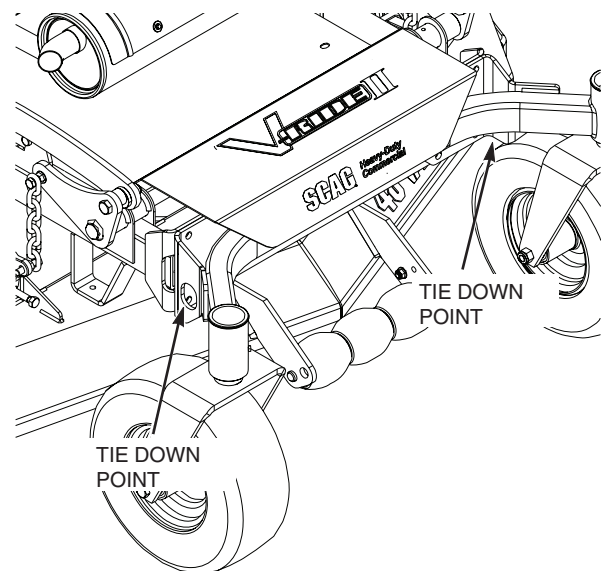

Figure 2-1. Front Tie Down Points
22. Tie the mower down securely using the tie down points located on the front and rear of the machine. See Figure 2-1 and 2-2. Secure using straps, chains, cable, or ropes. Both front and rear straps must be directed down and outward from machine.